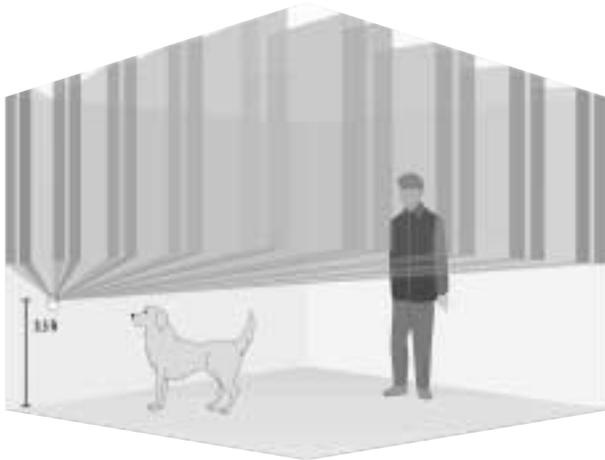

Figure 3. Pet Alley Application
- ❑ For installations where pets are present, mount the sensor upside down about 3.5 feet above the floor (see Figure 3). Leave the factory-installed undercrawl mask in place to block any detection pattern directed at the ceiling.